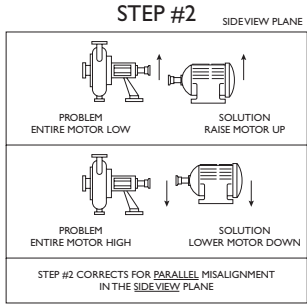

Fig. 30-6
2. Correct for parallel misalignment in the side view plane (Fig. 30-6).